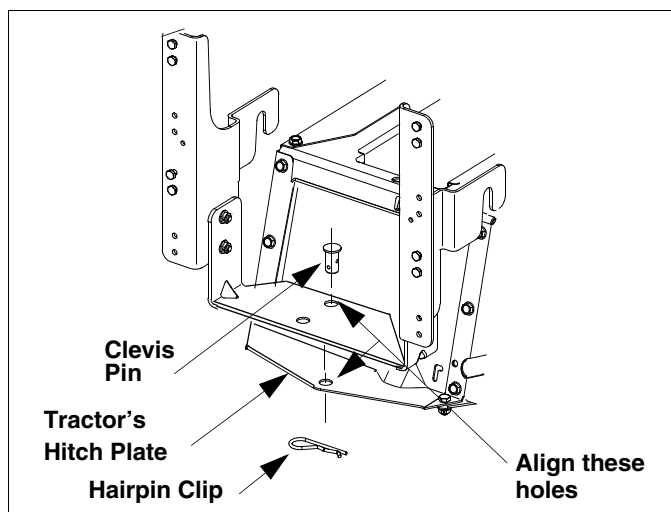

Figure 6
- Align the hole at the lower end of the support bracket subassembly to the hole on the hitch plate on the tractor and insert the Clevis Pin (Ref. No. 7) through these two holes. Secure the Clevis Pin with the Internal Cotter Pin (Ref. 11). See Figure 6.